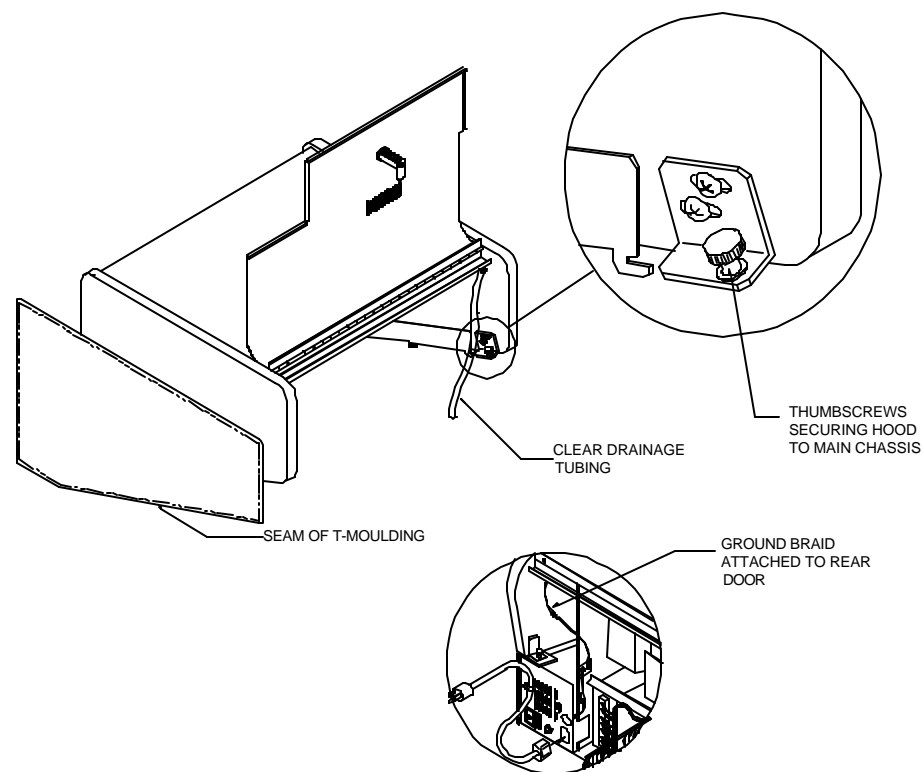

FIGURE 2 - HOOD ASSEMBLY
4. Disconnect the ground braid and the clear drainage tubing from the hood assembly. See Figure 2.
5. Remove the thumbscrews and washers securing the lid, push the lid forward, and remove it from the game. See Figure 2.
6. Locate the seam on the T-moulding as shown in Figure 2.